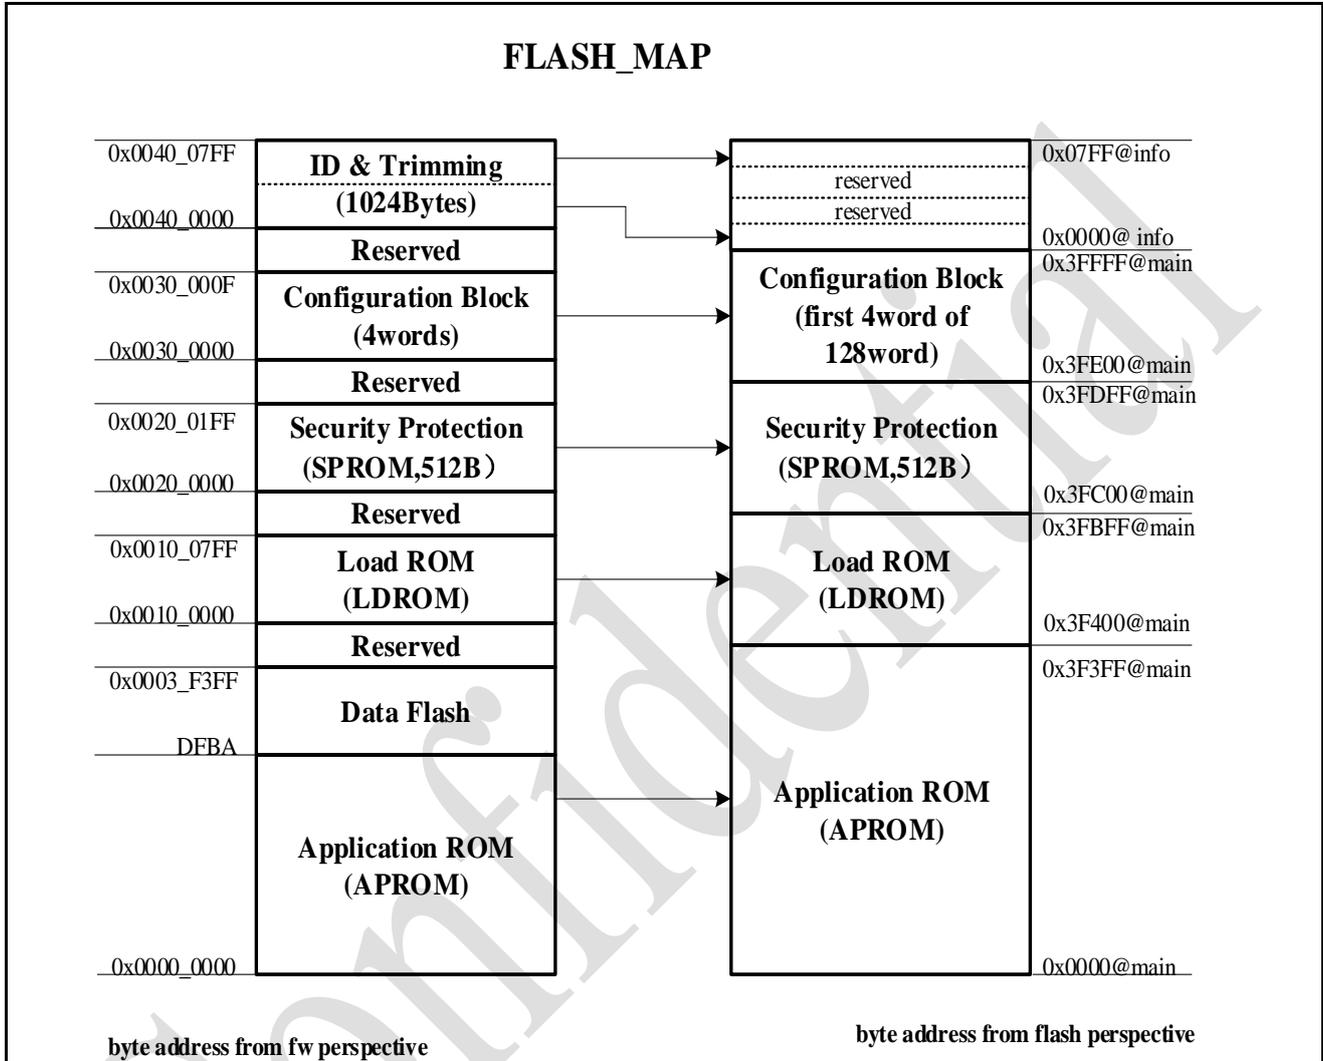

Figure 4-16 Flash Memory Map
In the PAN1020 series, the flash memory map is different to system memory map. The system memory map is used by CPU fetch code or data from FMC memory. The flash memory map is used for ISP function to read, program or erase FMC memory. Figure 4-16 shows the flash memory map.
1. Perform ISP “Run Memory Checksum” operation: user has to set the memory starting address (FMC_ISPADDR) and size (FMC_ISPDAT) to calculate. Both address and size have to be 4 bytes alignment, the size should be must be multiples of 4 bytes and the starting address is absolute address, in Figure 4-16 Flash Memory Map, it refers to byte address from flash perspect.
3. Read FMC_ISPDAT to get checksum: The checksum is read from FMC_ISPDAT. If the checksum is $0x0000_0000$, It must be one of two conditions (1) Checksum calculation is in-progress, (2) Address and size is over device limitation.